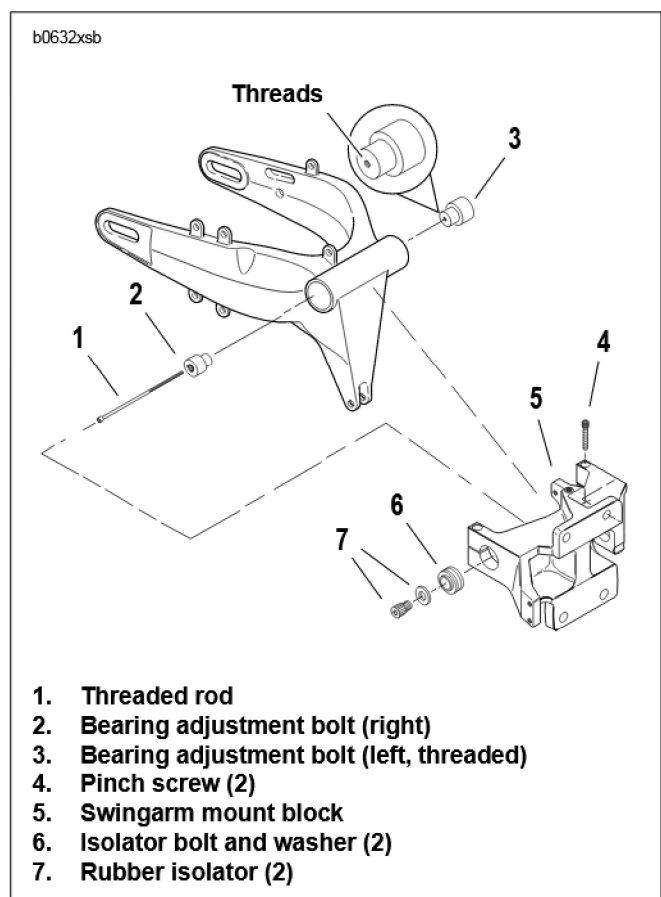

Figure 5. Swingarm Assembly
14. See Figure 5. Remove left and right isolator bolts and washers (7).
1. See Figure 5. Align **new** swingarm between posts on swingarm mount block (5).
3. Tighten left side swingarm pinch screw (4) to 18-20 ft-lbs (24.4-27.1 Nm).
4. Install threaded rod (1).
- b. Insert threaded rod through right side bearing adjustment bolt (2) into threads on left side bolt (3).
6. See Figure 5. Secure swingarm in place.
- a. Remove both pinch screws (1).
- b. Install isolator bolts and washers (7) through rubber isolators and into bearing adjustment bolts (2, 3).